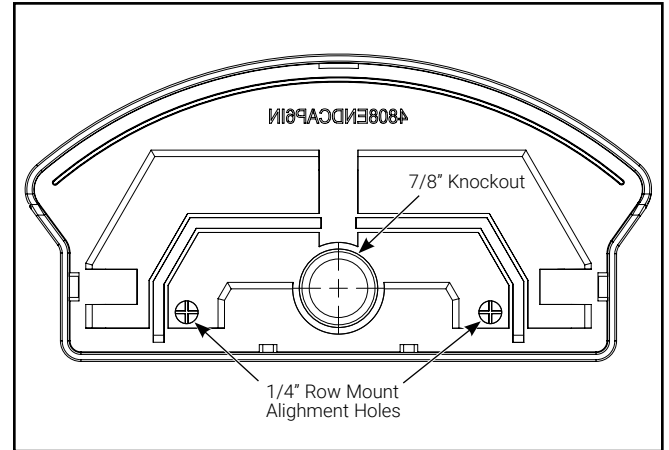

Figure 8.
2. Remove the 7/8" knockout on the end cap (Figure 8).
3. To align row mounted fixtures, drill thru 2 alignment holes in the end cap using a 1/4" drill bit (Figure 8).